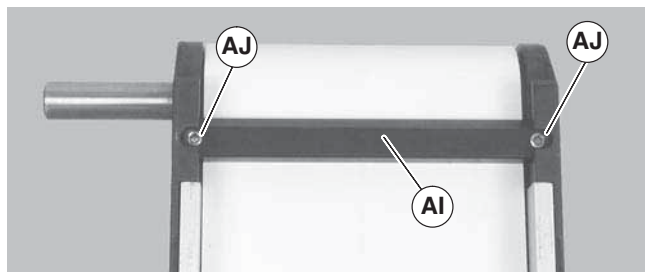

Figure 36
13. If equipped, re-install bottom wipers (Figure 36, item AI): Install wiper (AI) then install screws (AJ).